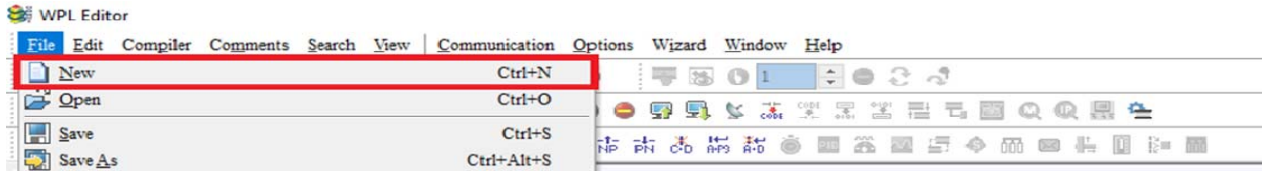

Figure 16-5
**NOTE** You can also find “New file (N) (Ctrl+N)” in the "File (F)", as shown in figure 16-5 below.